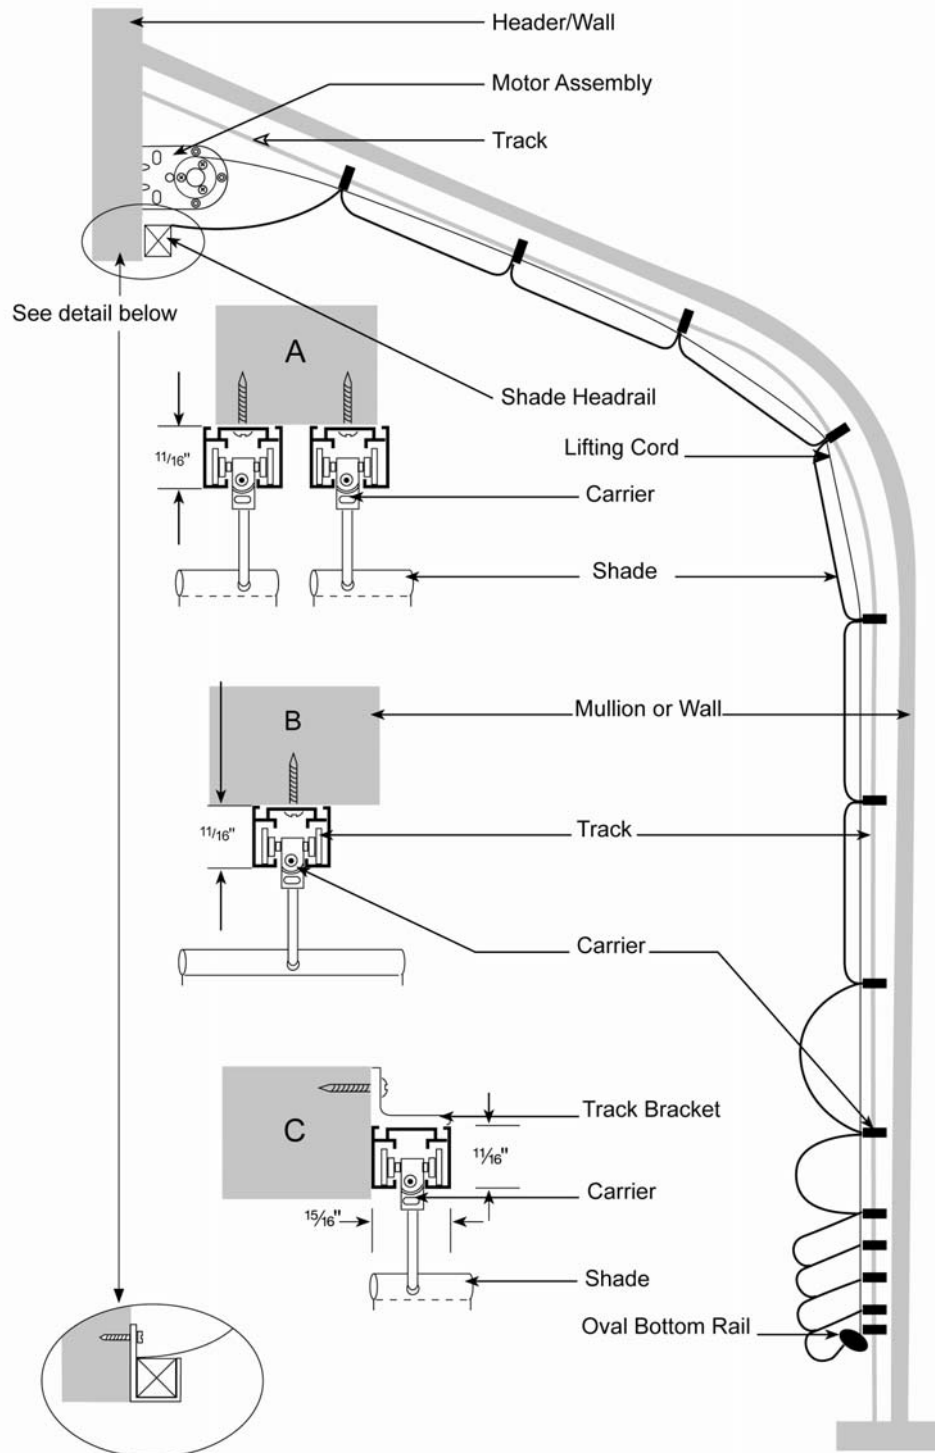

Figure 4 Trackstar Side View and Track Attachment Detail
- Determine and mark the correct placement for the tracks on the mullions or window frame. (See Figure 4 for diagrams.) Measure to ensure the distance between the centers of the tracks is the same as the distance between the carriers on the shade.